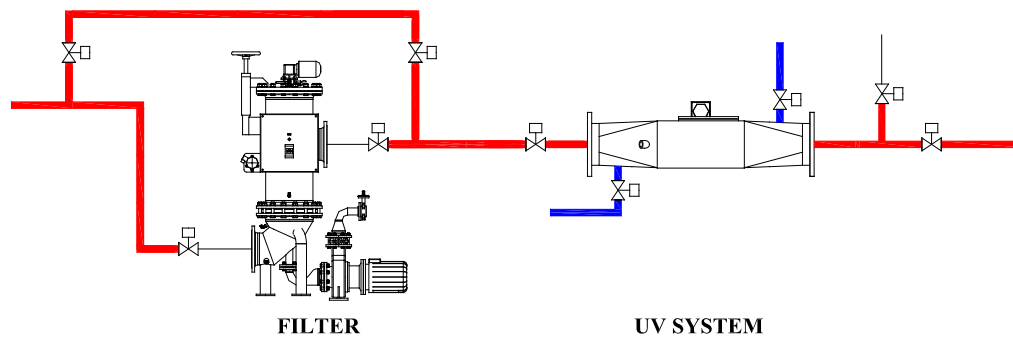

Figure 8. De-ballasting mode ON
Once pre-heating of UV lamp is complete, the BioViolet™ controller opens the valves from the front side of the filter to rear end of the UV system, as shown in Figure 8. Here, the test facility controller executes “De-ballasting (T) Mode” by operating ballast pump.